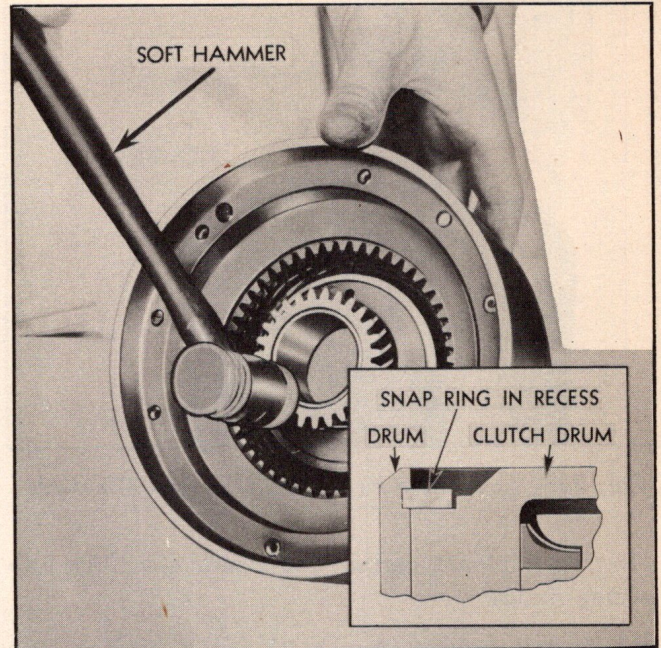

Fig. 243—Seating Clutch Drum Against Snap Ring
14. Tap front face of center gear with a rawhide or similar hammer so the clutch drum will seat against snap ring (Fig. 243).